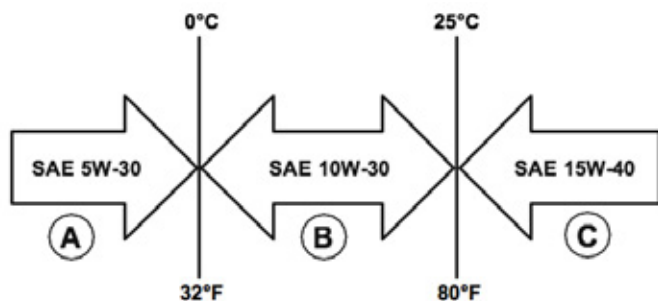

Figure 12: Recommended Oil
1. Only use the engine oil specified in Figure 12.
7. Select the proper engine oil as specified in Figure 12.